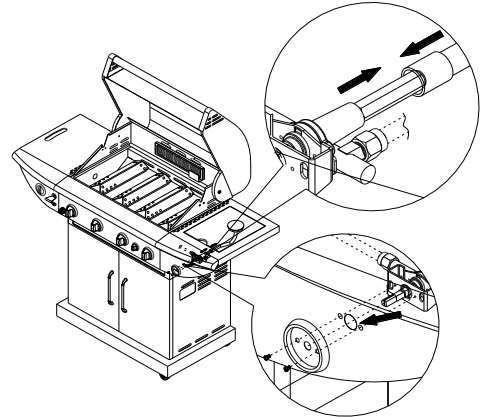

**Figure 12**
1. Remove screws attaching side burner to underside of side burner shelf to make room to install side burner valve. See Figure 12 A inset.
2. **Remove two screws** from side burner control valve face. Insert side burner valve control stem through hole in side burner control panel. See Figure 12 B.
4. Insert valve orifice tip into burner tube as shown in Fig. 12. Reattach burner to underside of side burner shelf with screws removed in step 1.